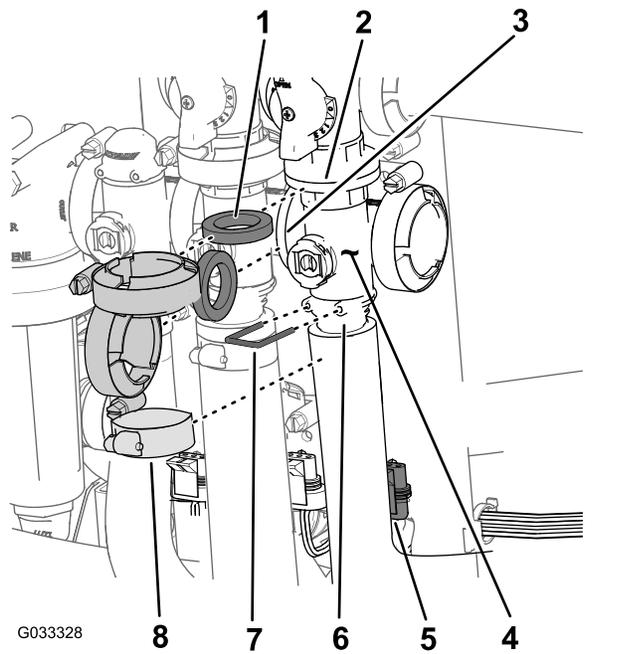

Figure 66
1. Remove the clamps and gaskets that secure the manifold for the master-boom valve (Figure 66) to the master-boom-bypass valve, agitation valve, and master-boom-manifold valve (at the end of the hose for the flow meter).
2. Remove the retainer that secures the outlet fitting to the manifold for the master-boom valve (Figure 66).